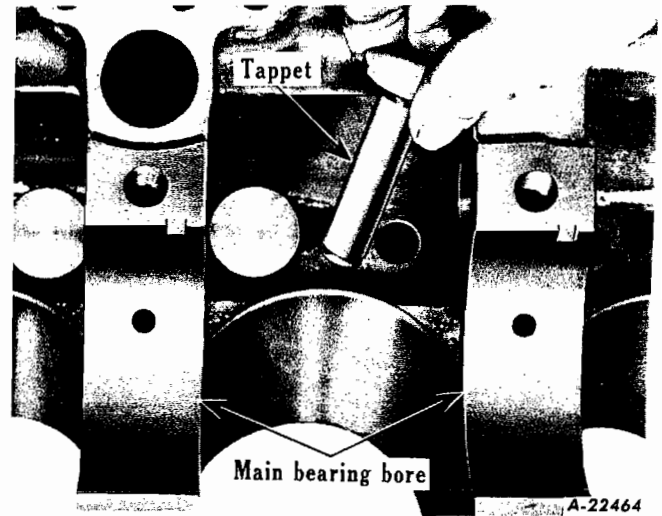

Fig. 47
8. INSTALL VALVE TAPPETS. Coat each of twelve valve tappets with heavy engine oil and install from crankcase side of engine (Fig. 47).